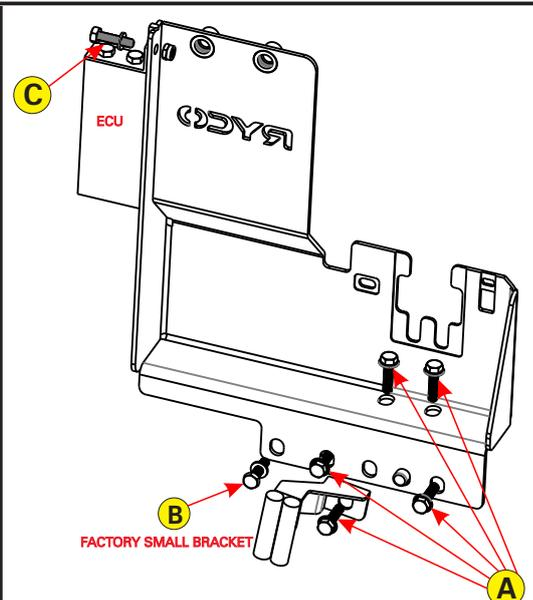

FIG. 2 BRACKET INSTALLATION
4. Fit the Ryco bracket in the same position as the factory bracket reusing the 5 factory bolts (A), and a supplied bolt and washer (B). Secure the ECU to the right hand side of the bracket using the supplied M6 bolt, washer and lock nut (C) (Check detail in per Fig. 2.)